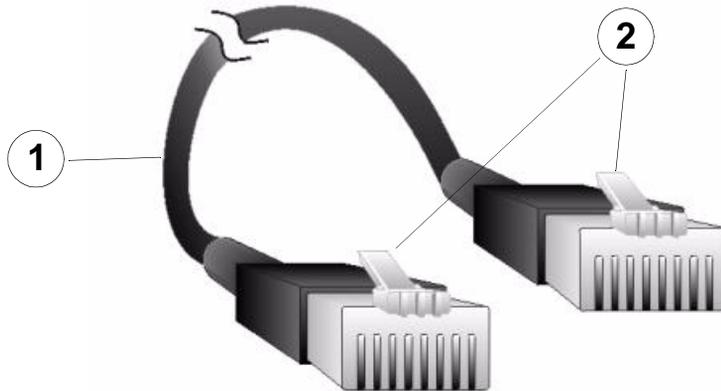

FIGURE 2-7. U-NET Cable Construction
Referring to Figure 2-7, the U-NET cable (1) utilizes a twisted pair configuration with category 5 UTP cable and RJ-45 jacks (2). Up to 32 control panels can be connected to a controller's UNET port in a daisy-chain topology with a maximum cable length for the entire chain of 1000 feet.